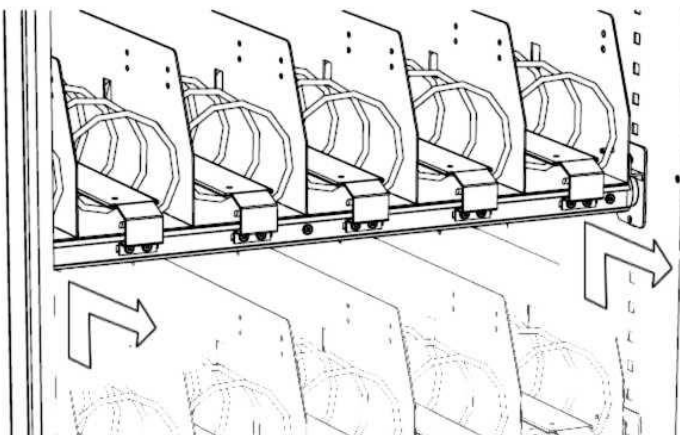
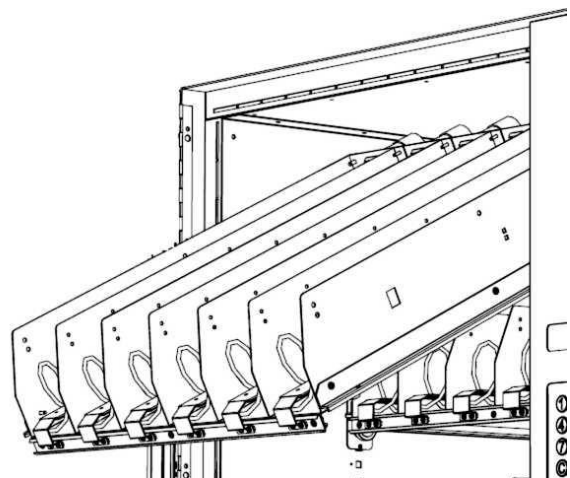

Figure 4.3
Figure 4.2
- In order to draw out a shelf it is necessary at first to lift it. Then pull the shelf outwards having it sliding to the end of the track (Figure 4.3). The shelf will stop in a stable position, suitable for products loading. The three upper shelves will stop in a slanting position in order to make products loading easier (Figure 4.2).